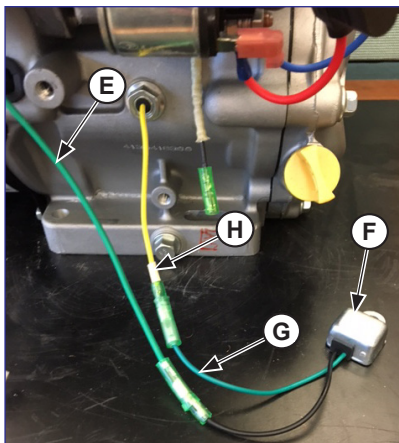

Figure 5. Connect Key Box Lead to Oil Alert Control.
9. Attach key box green wire (E) to new oil alert control (F) and connect other lead (G) of control to oil level switch lead (H) coming out of crankcase. See Figure 5.